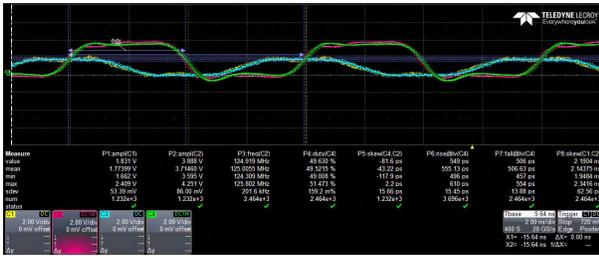
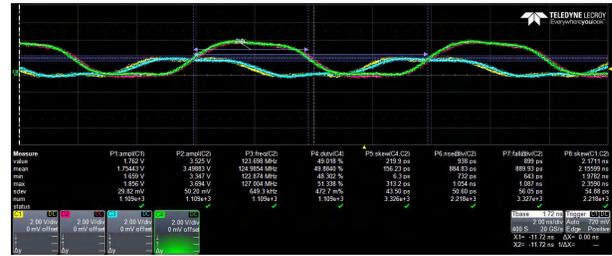

Figure 3-3. TXV Waveform (5 pF 1.8 V to 3.3 V Up Translation at 125 MHz, 125°C)
Figure 3-4. Competitor Waveform (5 pF 1.8 V to 3.3 V Up Translation at 125 MHz, 125°C)
- As temperature increases to 125°C, Figure 3-3 compares TXV0108 (measuring 555 / 507 ps rise or fall times, 43 ps tighter rise-to-rise skew) with competitor (measuring approximately 4x looser skew and approximately 2x slower rise or fall times >750 ps), violating RGMII's timing budget shown in Figure 3-4.